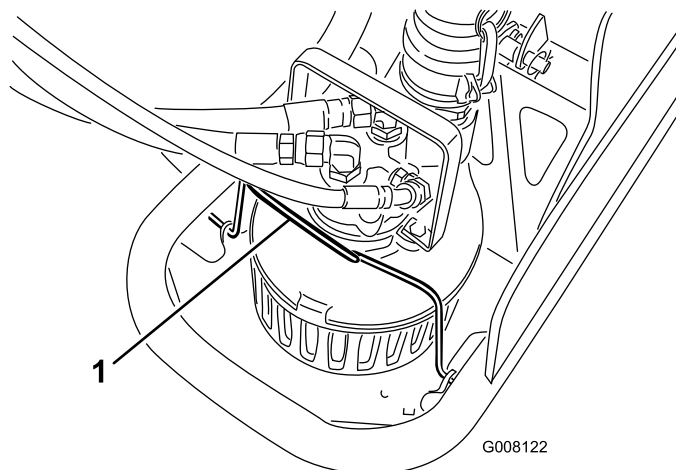

Figure 14
4. Pivot the pump clamp forward (Figure 14).
14. Pivot the pump clamp rearward onto the pump (Figure 14).